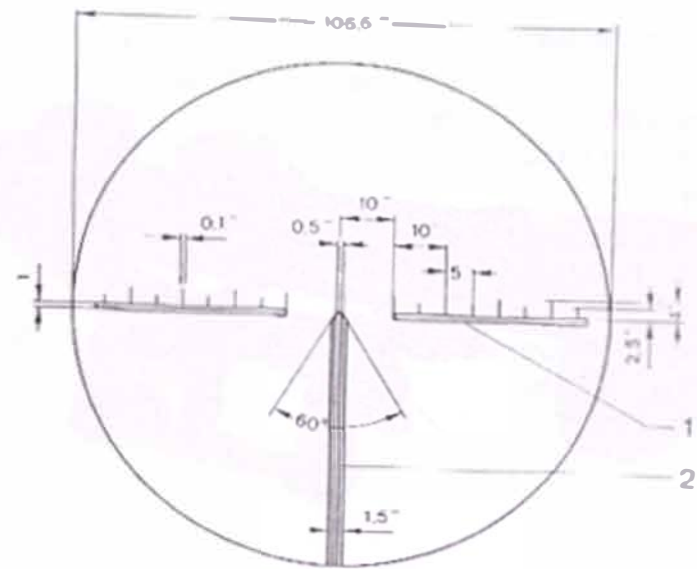

Fig. 5 FERRO-Z 24
- 2.3 Putting Telescope Sight into Operation and Boresighting (Fig. 5)**